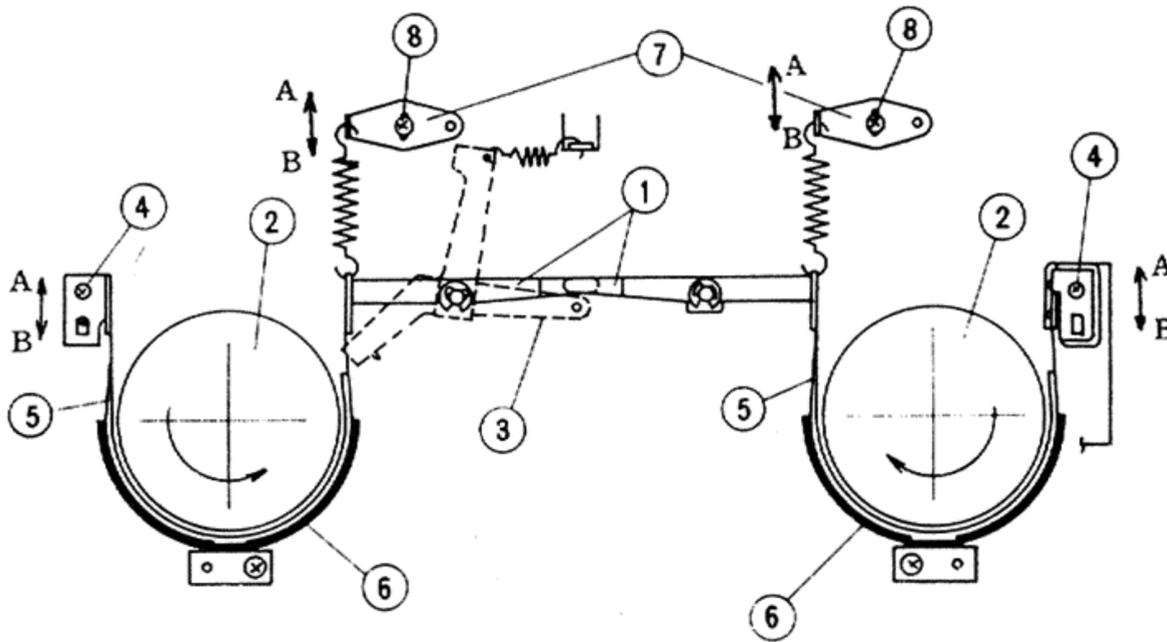
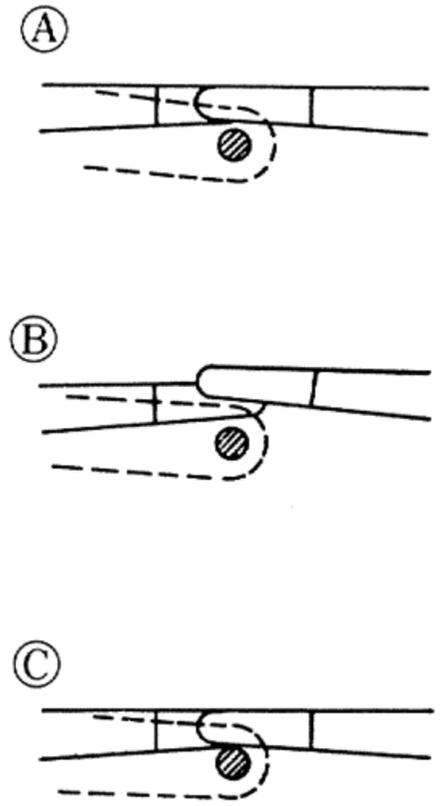

Fig. 21
Fig. 23
5. Adjusting the brake and pinch roller elevation position (Fig. 21)
The condition shown in (B) is often caused when lever (1), etc., is bent. Bend the lever and repair as shown in (C). Next, loosen the two setscrews of brake drum (2) using a hex wrench (ISO M3) and adjust the position of the brake drum to that shown in (A) (Fig. 21). In some cases, adjustment to the condition shown in (A) can be done by bending the lever in the direction of the arrows.
- 2) When adjustment 1) is completed, adjust the spaces between the stud of lever ③ and the right and left brake arms ①. The spaces must be equal with each other as shown in Fig. 23 (A). Loosen screws ④ shown in Fig. 21. If the spaces are zero, move the brake liner, in the direction of arrow (A) in Fig. 21; if the spaces are excessive, move the liner in the direction of arrow (B).
Loosen screws ⑧ holding lever ⑦ shown in Fig. 21 and adjust. The torque is increased with levers ⑦ moved in the direction of arrow (A) in Fig. 21; the torque is decreased with levers ⑦ moved in the direction of arrow (B).